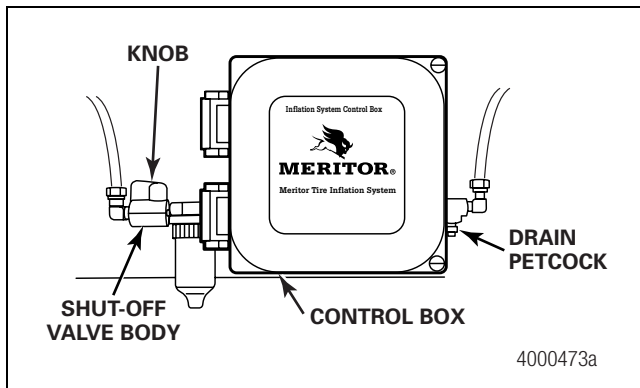

Figure 3.1
2. Check that the shut-off valve is ON. When the valve is ON, the knob aligns with the shut-off valve body. Also, check that the petcock is closed. Figure 3.1.